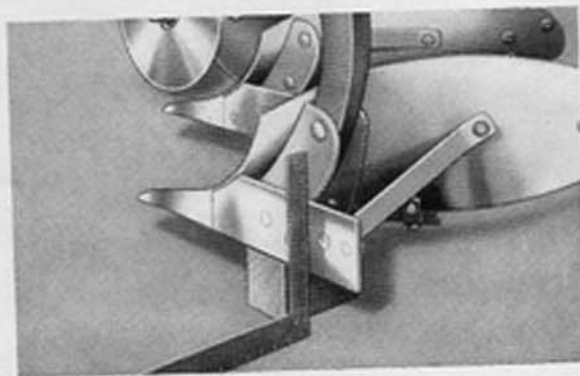

Fig. 14B
3. With the use of a carpenter's square, level the plow until the face of the rear bottom landside is perpendicular with the level surface, \*Fig. 14b.
4. Square up the face of the landside so that it is at right angles with the flat surface, as shown in Fig. 14b.